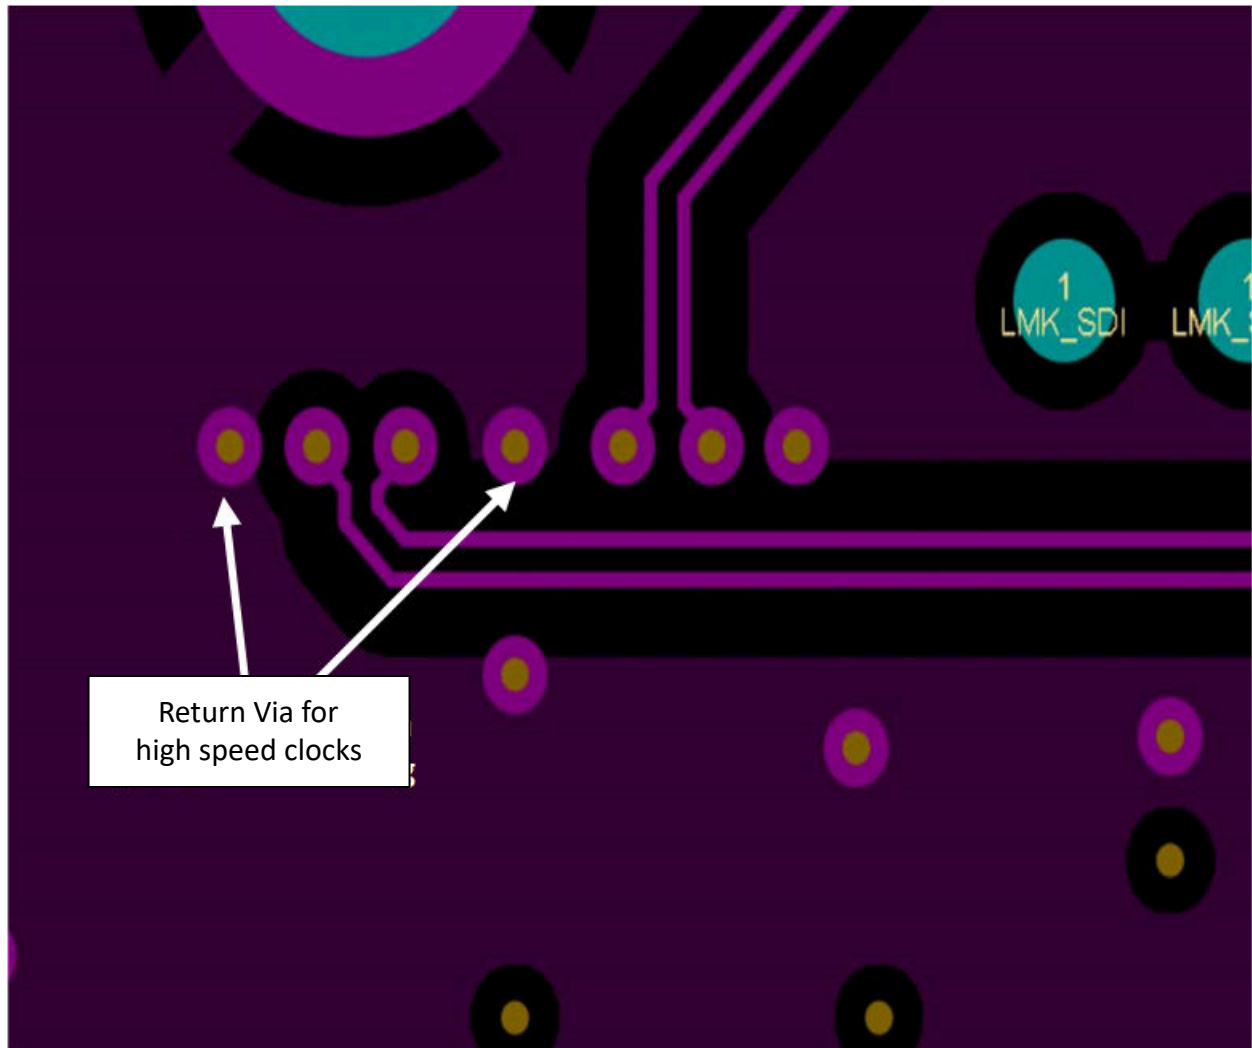

Figure 8-26. Return Vias for High Speed Clock
8. When high-speed signals must transition to another layer using vias, transition as far through the board as possible (top to bottom is best case) to minimize via stubs on top or bottom of the vias. If layer selection is not flexible, use back-drilled or buried, blind vias to eliminate stubs. Always place two ground vias ("return vias") close to critical high-speed signal trace via when transitioning between layers to provide a nearby ground return path. See Figure 8-26 and Figure 8-27 as examples.